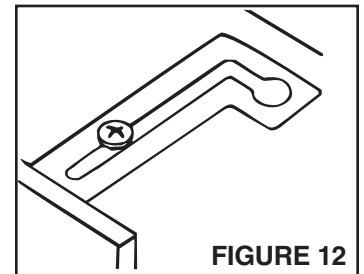

FIGURE 12
4. Refer to Figure 12. Slide master station panel to the right, then forward until it is flush with the wall surface.